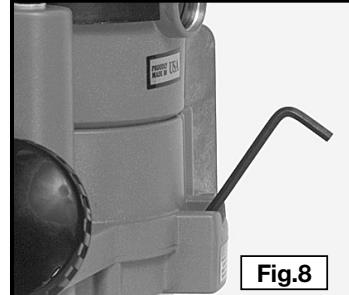

Fig. 8
2. Insert the hex wrench (A) Fig. 8 to contact the locking plate. Tap lightly to release and remove the locking plate.